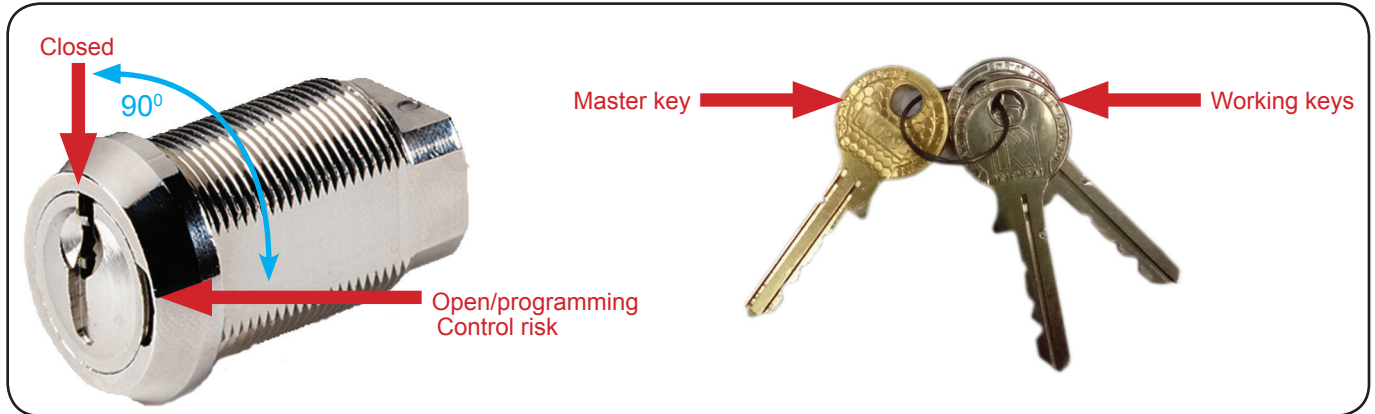

Fig.6.33 - Lock RIELDA
The lock comes complete with three keys (fig.6.33):
- Operating position ("closed" position - fig.6.33);
- Position for the programming (the "open" position - fig.6.33).
- Insert the master key lock ("closed" position - fig.6.33) in which the castle was the last time that programmed or is supplied with a lock (for primary programming). Lock master key in the lock at least one second. Then turn 90 degrees in the direction of the control key risk.
- Then turn the master key 90 degrees in the opposite direction (the "closed" position -fig.6.33).